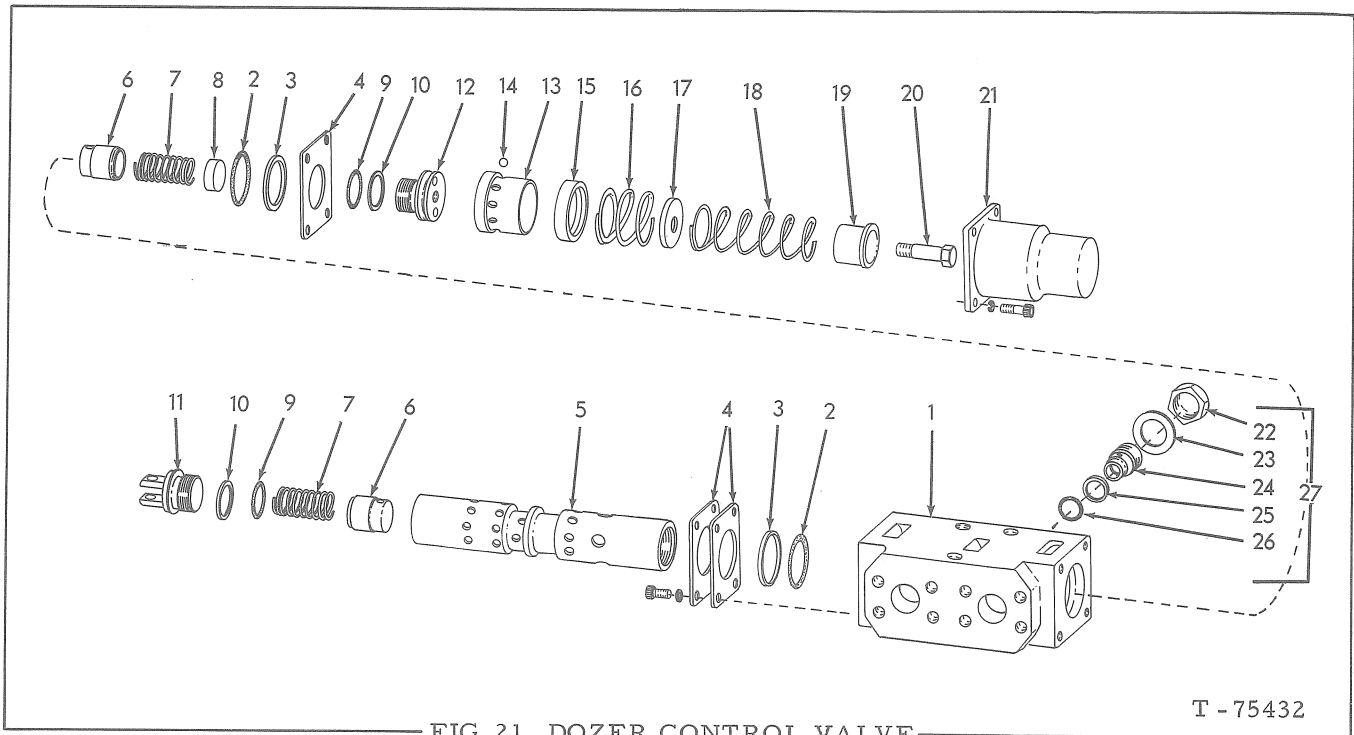

FIG. 21 DOZER CONTROL VALVE
Clean exterior of valve housing thoroughly. Remove anti-cavitation valve, Fig. 21 (27), by unscrewing cap (22) and then unscrewing seat assembly (24) from housing.
Clamp spool, Fig. 21 (5), in a soft jawed vise. Do not mar finish and do not hold spool by inserting a tool in holes. Install back-up ring and O-ring on detent (12). Refer to Fig. 21, and insert check valve (6), spring (7), and spacer (8) into spool. Coat threads on detent with Loctite B7-2 (yellow), or equivalent, and screw into spool; tighten securely. Install back up ring and O-ring on clevis (11). Install check valve and spring in spool. Screw clevis into spool and tighten securely.
Install an O-ring, Fig. 21 (2), and then a Teflon back-up ring (3) into each end of housing (1). Install one retaining plate (4) over spool (5). Lubricate the spool assembly and insert it into the housing.